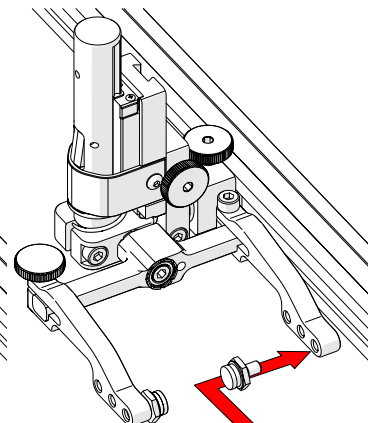

Fig. 61 - Place buttons
3. Position the pivot buttons where necessary (Fig. 61). When a narrow scanning footprint is required, use the pivot button holes closest to the yoke.